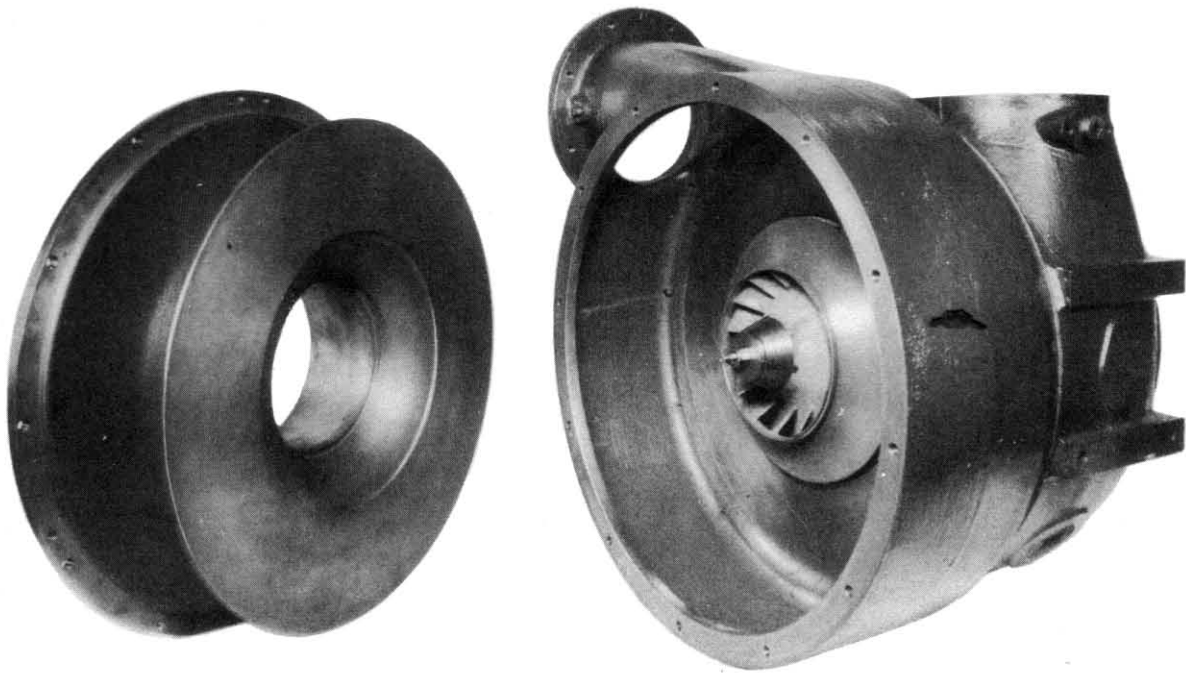

Fig. 6—Partially Dismantled View Showing Blower Inlet Removed for Cleaning.
The impeller and diffuser should be cleaned every 4,000 hours or less, depending on service conditions, to maintain optimum turbocharger performance. Remove the blower inlet bolts (38), Fig. 9. Using these bolts as jacking screws, break the flange connection between the blower inlet and the blower casing. With the aid of the lifting lug and an overhead lift remove the blower inlet (37) (see Fig. 6). This part must be pulled out along the rotational axis to avoid damaging the impeller shroud labyrinth seal rings. The impeller, diffuser and blower casing may now be